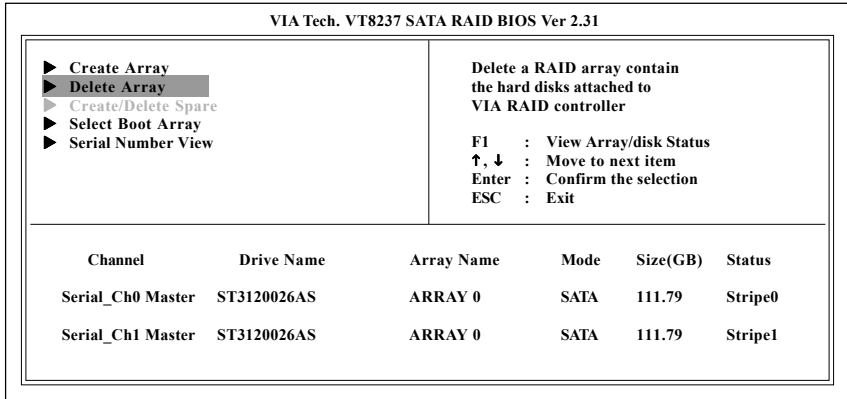

Figure 18
1. To delete the current RAID array, select the Delete Array option from the main screen (Figure 18) and press <Enter>.